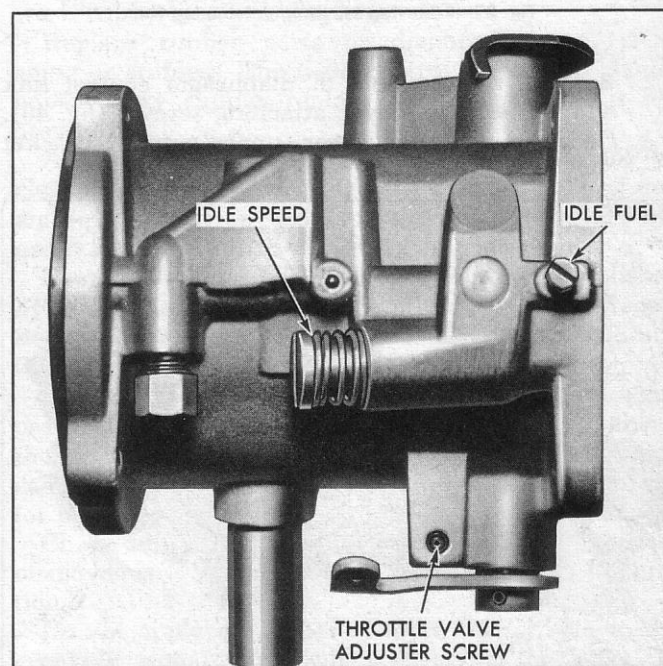

Fig. 38—Removing Idle Screws
3. Remove idle speed and idle fuel adjusting screws (fig. 38).